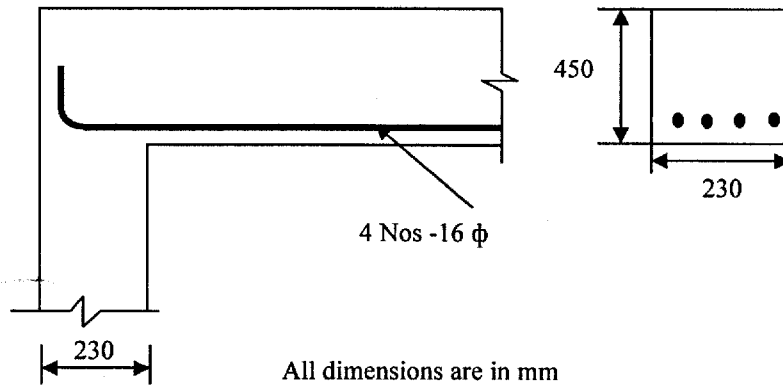

Fig. 1
- 1 (a) Determine the anchorage length of bars shown in figure 1 at the simply supported end of the RCC beam; if it is subjected to an ultimate shear force of 300 kN. 10